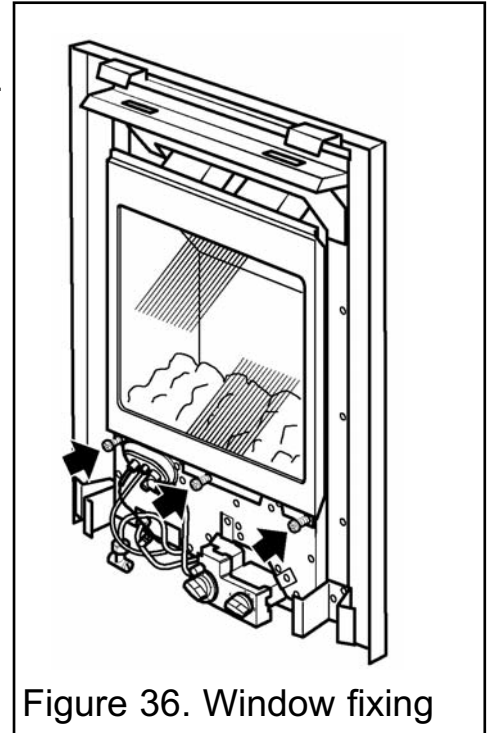

Figure 36. Window fixing
- Unscrew and remove the three spring-loaded window-fixing screws and bushes from the base of the window frame (See figure 36).